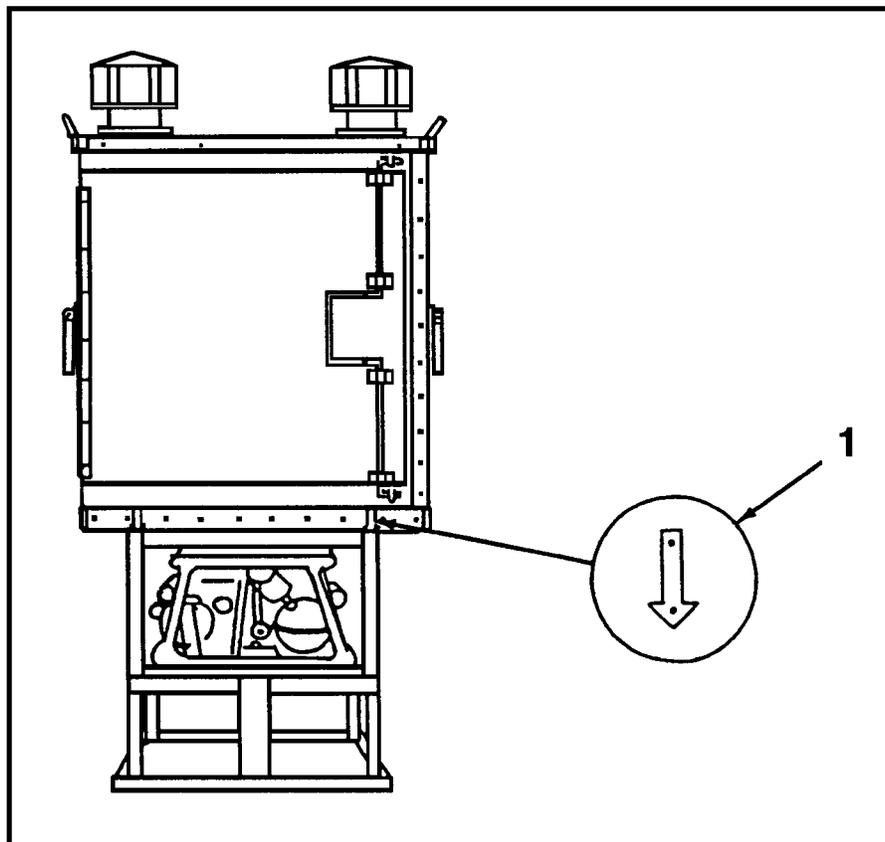

Figure 2-14. Aligning oven arrows.
- b. Place the oven assembly on top of the burner rack aligning the arrows on the front of the oven (1) with the frame of the burner rack. This requires an assistant. (See Figure 2-14.)